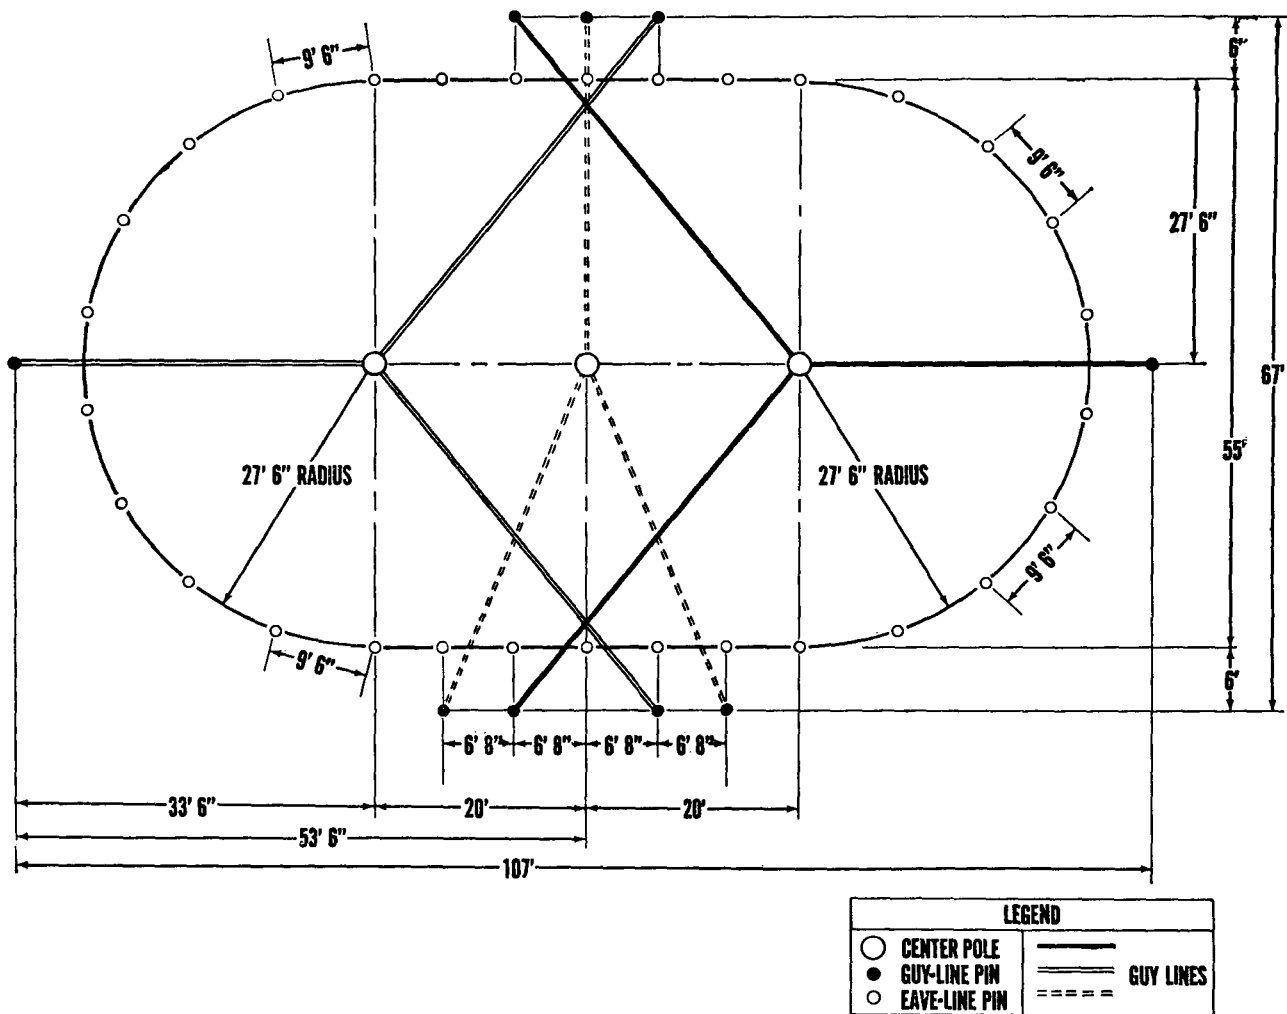

Figure 7. Ground plan of tent, assembly, M-1942.
c. Ground Plan. Before pitching the tent, study the ground plan carefully (fig 7).
(4) *Erecting middle center pole (4, fig 8).* One man stands at the butt end of the middle center pole, one man at the top end of the pole; and one man at the end of each of the three guy lines. One of these guy lines leads to the outside pin on a line at right angles from the center point of the long dimensional line of the tent layout (fig 7). This places the man holding the line directly in line with the man at the butt end of the pole. The man at the butt end of the pole keeps the pole in posi-